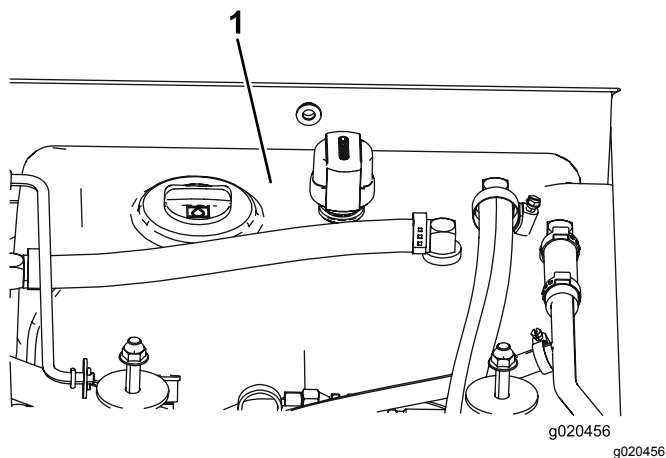

Figure 102
4. Fill the reservoir (Figure 102) with hydraulic fluid; refer to Checking the Hydraulic Fluid (page 68).